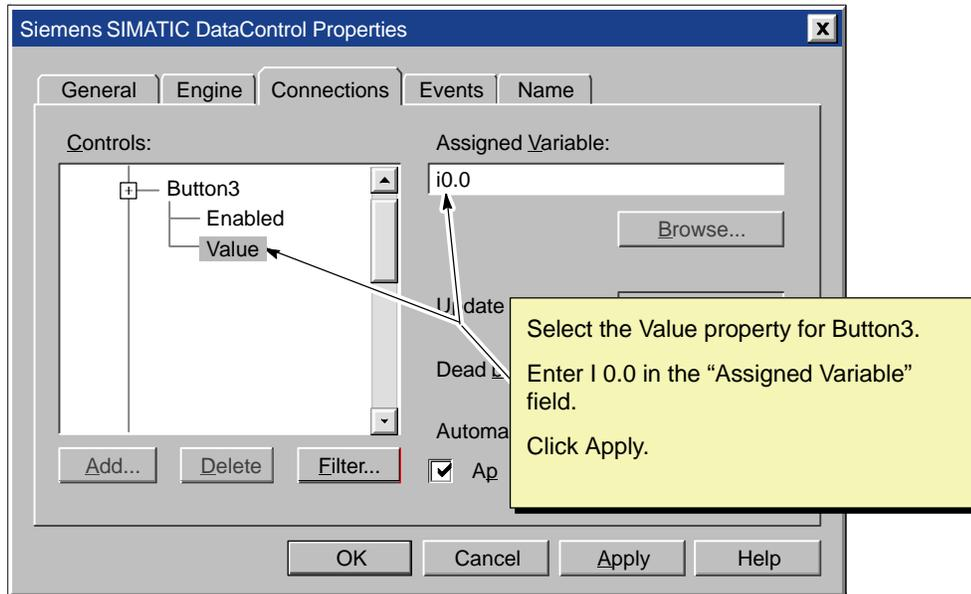

Figure 3-17 Assigning the Variable for Button3
10. With the Value property for Button3 selected, enter `I0.0` in the "Assigned Variable" field. See Figure 3-17.